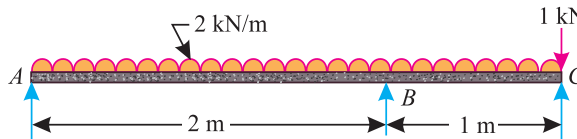

Fig. 16.11.
**Example 16.5.** An overhanging beam ABC of span 3 m is loaded as shown in Fig. 16.11.